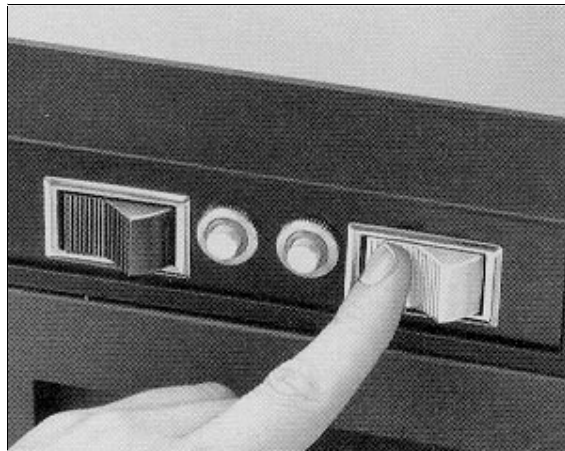

Figure 3-8. Turning on Power
2. Turn on the power (press the switch on the front of the baseboard; see figure 3-8) Then, if necessary, turn on the lights.